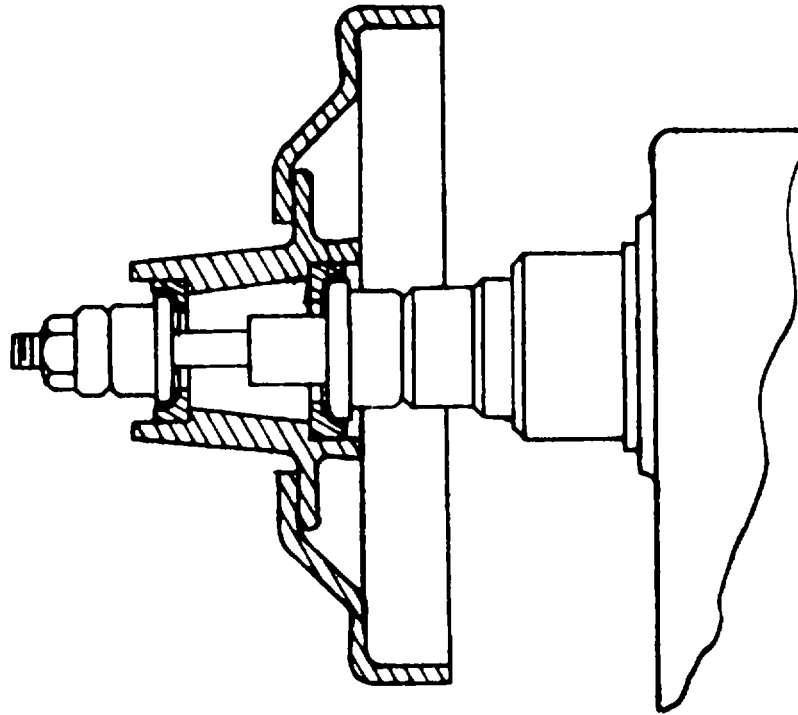

Fig. 1-4 - BALL BEARING EQUIPPED HUB
- c. -Ball Bearing Equipped Hub. Select the proper Radii Cone to fit into the inner and outer bearing cups. Radius of Radii Cone selected should seat in Center of Bearing Cup radius. Place Radii Cone for inner bearing cup onto Arbor followed by drum and Radii Cone for outer bearing cup. Place additional Spacers on Arbor so that when the Arbor Nut on the end of Arbor is tightened, the two Radii Cones are drawn up securely to the bearing cups. Make sure bearing cups and radii cones are clean before mounting. (See Figure 1-4)